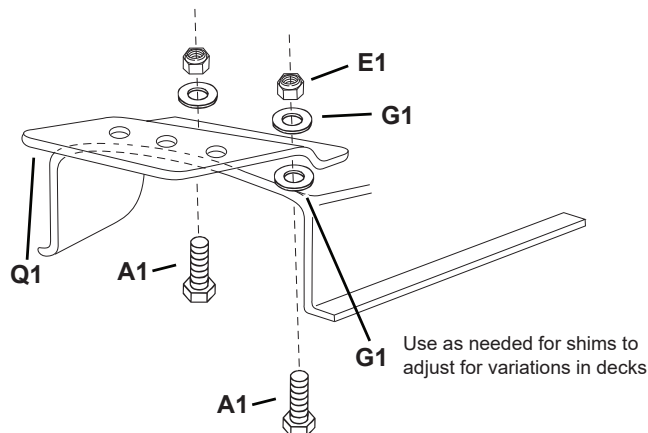

FIGURE 26
- Assemble the adapter bracket to the deck using two 5/16" x 1-1/4" hex bolts (A1), 7/8" flat washers (G1) and 5/16" nylock nuts (E1). Tighten hardware. See figure 26.
**NOTE:** It may be necessary to use extra 7/8" flat washers (G1) to shim under the bracket next to the deck surface. Ten extra washers have been furnished as shims. See figure 26.